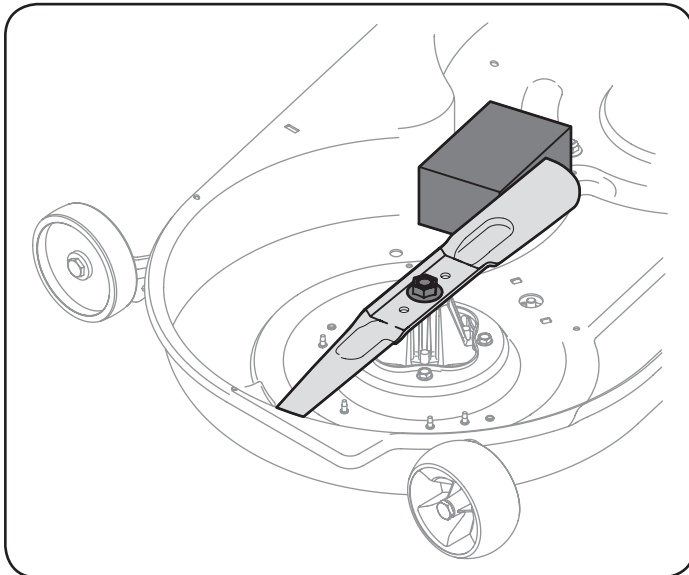

Figure 23
2. Place a block of wood between the deck housing baffle and the cutting blade to act as a stabilizer. See Figure 23.
3. Remove the hex flange nut that secures the blade to the spindle assembly. See Figure 23.